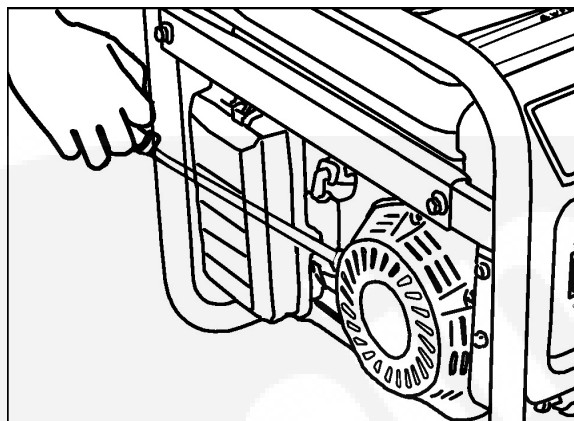

FIGURE 8. RECOIL START HANDLE
4. With one hand on the generator, grip the recoil handle with the other hand and pull it out quickly and smoothly. Repeat as necessary until the engine starts (see Figure 8).